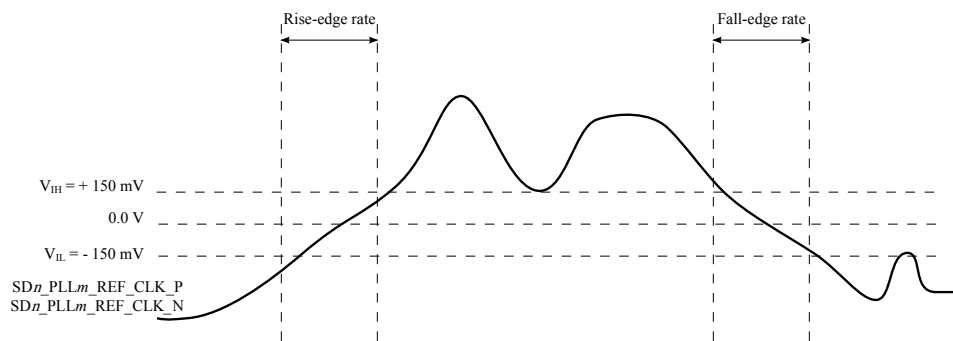
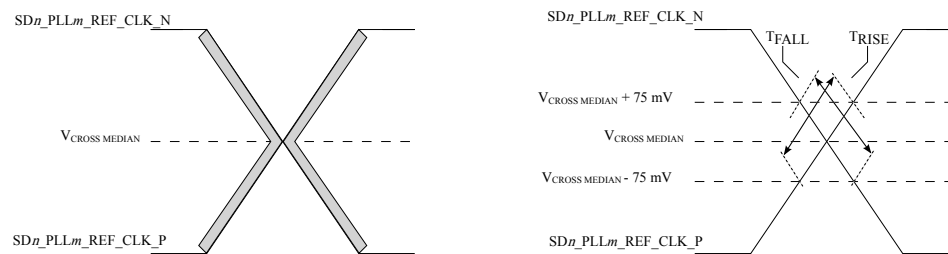

Figure 50. Differential measurement points for rise and fall time
Figure 51. Single-ended measurement points for rise and fall time matching
signal trace curve in a differential waveform. The voltage represented in the differential waveform is not referenced to ground. See Figure 50 as an example for differential waveform.
1. For PCI Express (2.5, 5, and 8 GT/s). 2. Measurement taken from differential waveform. 3. Limits from PCI Express CEM Rev 2.0. 4. For PCI Express 2.5 GT/s 5. For PCI Express 5 GT/s 6. For PCI Express 8 GT/s 7. Measured from -150 mV to +150 mV on the differential waveform (derived from SDn_PLLm_REF_CLK_P minus SDn_PLLm_REF_CLK_N). The signal must be monotonic through the measurement region for rise and fall time. The 400 mV measurement window is centered on the differential zero crossing. 8. See Figure 50. 9. Measurement taken from single-ended waveform. 10. Matching applies to rising edge for SDn_PLLm_REF_CLK_P and falling edge rate for SDn_PLLm_REF_CLK_N. It is measured using a +/- 75 mV window centered on the median cross point where SDn_PLLm_REF_CLK_P rising meets SDn_PLLm_REF_CLK_N falling. The median cross point is used to calculate the voltage thresholds that the oscilloscope uses for the edge rate calculations. The rise edge rate of SDn_PLLm_REF_CLK_P must be compared to the fall edge rate of SDn_PLLm_REF_CLK_N, the maximum allowed difference should not exceed 20% of the slowest edge rate. 11. See Figure 51.